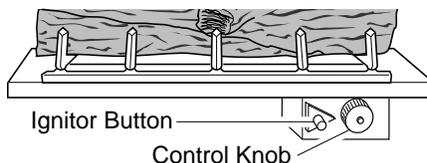

Figure 41 - Control Knob and Ignitor Button Location
4. Wait five (5) minutes to clear out any gas. Then smell for gas, including near the floor. If you smell gas, **STOP!** Follow "B" in the safety information above. If you don't smell gas, go to the next step.
5. Turn control knob counterclockwise to the PILOT position. Press in control knob for five (5) seconds (see Figure 41).